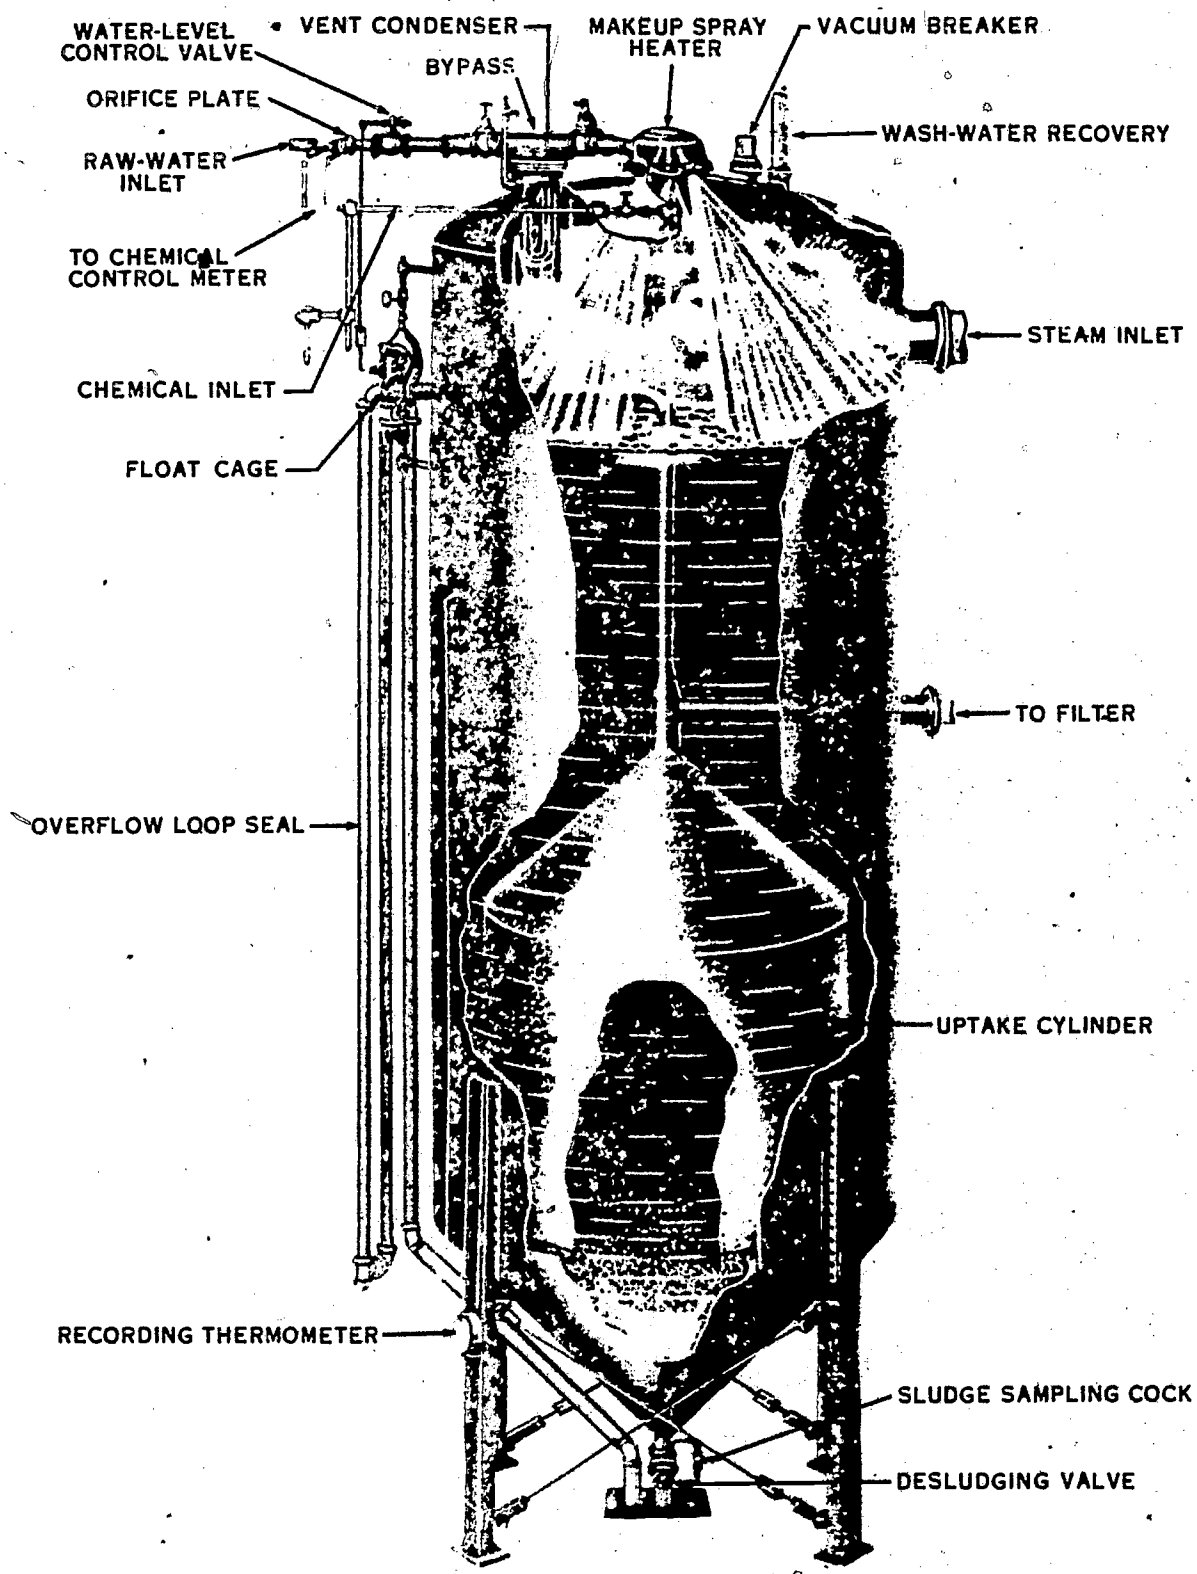

Figure 21. Lime-soda softener.
9. *Lime-soda*. The lime-soda softener is used to precipitate the hardness salts of calcium and magnesium from the water. A typical lime-soda water softener is shown in figure 21. When using this hot process lime-soda water softener you should strictly follow the manufacturer's instructions.
15. A float assembly (not shown) similar to the ones shown in figures 21 and 23, that actuate the water-control valves, controls the water level in the tray-type deaerating heater. The steam enters through a nozzle in the side of the shell and flows through perforations in the top plate of the tray section. Here it meets the water sprayed upwards from the distributor. Most of the steam is condensed by the time it passes through the tray stack. The remaining steam and any noncondensable gases enter the vent condenser. There the gases are discharged into the atmosphere, but the last of the steam is condensed and the water drains back into the unit.